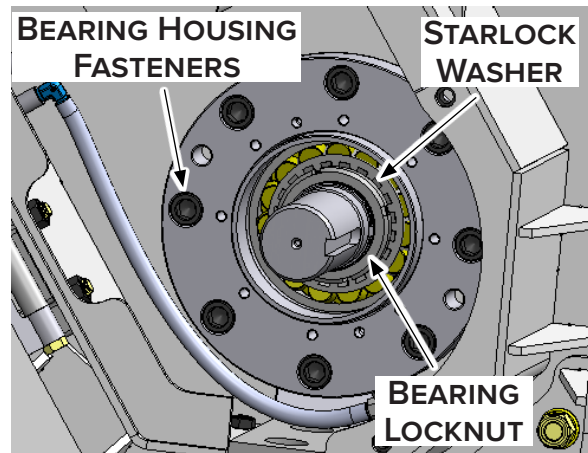

Figure 27
13. With a 14 mm Allen key, torque the bearing housing fasteners to 175 lbf·ft (236 N·m) with a medium strength thread locker. See Figure 27.